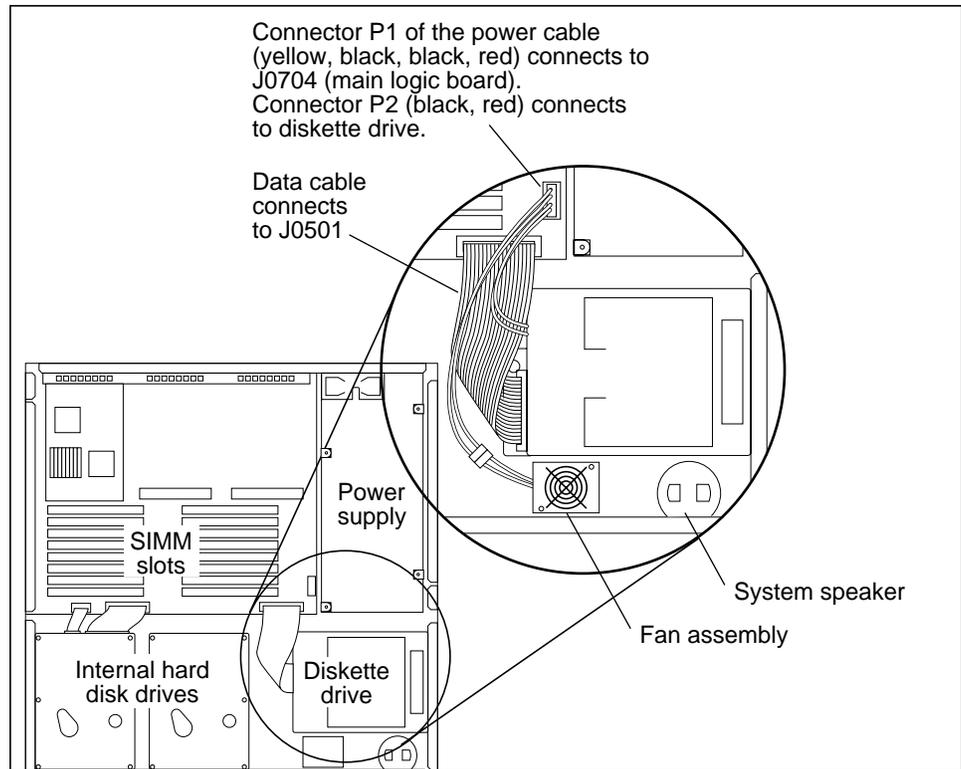

Figure 3-4 The Power and Data Cables to the Diskette Drive
- 2. Disconnect the diskette drive’s data cable from the main logic board. Disconnect the “Y” power cable from the main logic board and the fan assembly (See Figure 3-4).**
6. Connect the data cable to the new drive. Connect the “Y” power cable to the main logic board and the fan assembly. The power and data connectors are keyed so they will fit only one way. (See Figure 3-4).